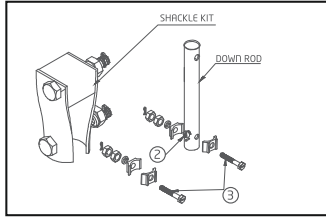

Figure 2
Remove the safety screw ② from the down rod and down rod bolt ③ for shackle kit pack / down rod. See Figure 2